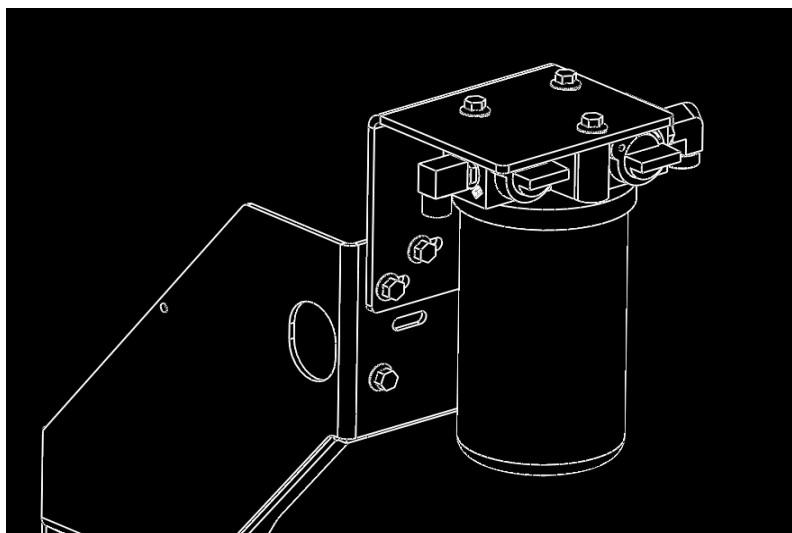

FIG. 3-2
4. Tighten (4) mounting bolts on mounting bracket. **Ensure the bracket stays slid inboard. Torque to 31 FT-LB $\pm$ 3**
5. Mount fuel filter to 0587-HH3-001 using retained hardware. **Torque to 31 FT-LB $\pm$ 3** Refer to FIG. 3-2.